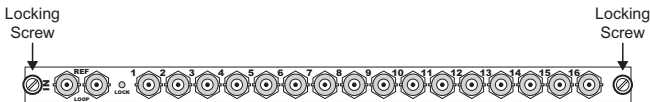

Figure 6 Locking Screws on Rear Frame Board
3. Unscrew the **Locking Screws** located at either end of the rear panel of the board you want to remove (**Figure 6**).